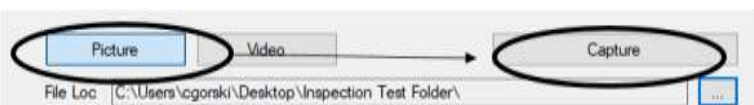

Figure 7
1. Select the 'Picture' Button on the software. **Fig. 7**
- A. Click 'Capture' on the Healthmark Viewer Software. **Fig. 7**